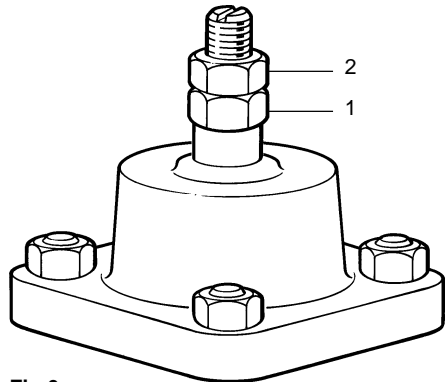

Fig 6
Using a 16mm A/F spanner hold the adjustment nut (1) and slacken the lock nut (2). Unscrew and remove both these nuts completely from the rod, invert and replace them as shown in Fig. 6.